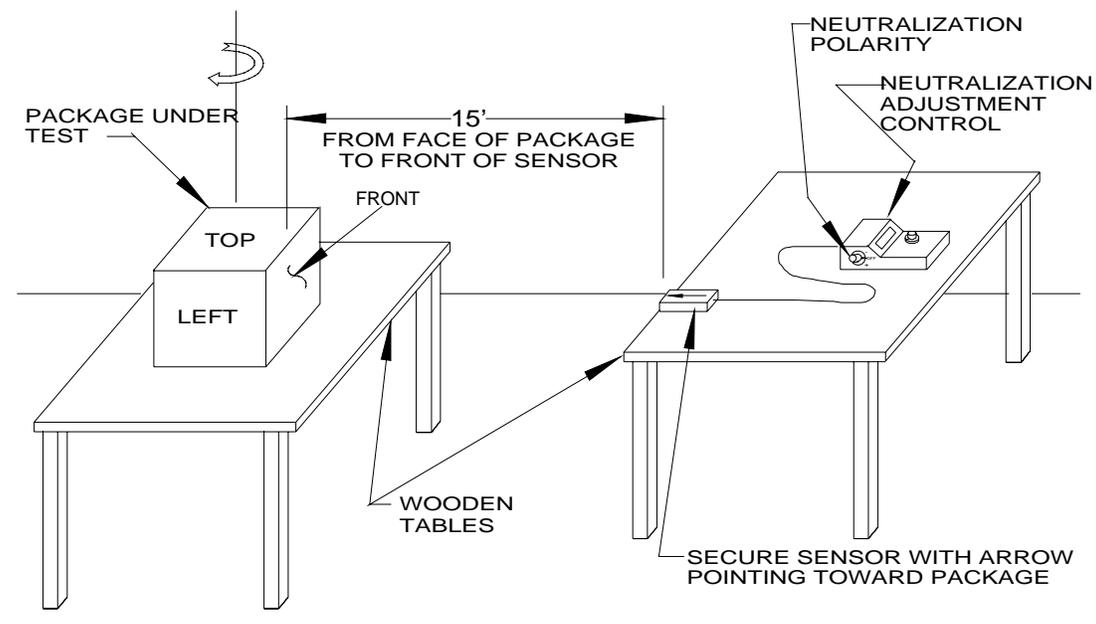

FIG 2 - STARTING POSITION
1. Set up two non-magnetic (e.g., wooden) tables of the same height in line with one another and spaced 15 feet apart as shown in Fig. 2.
2. Bring the package to be tested into the site. Place the package on the table opposite the table containing the probe so that one of its sides is facing the μ MAG-01N probe and is 15 feet from the front edge of the probe (see Fig. 2).